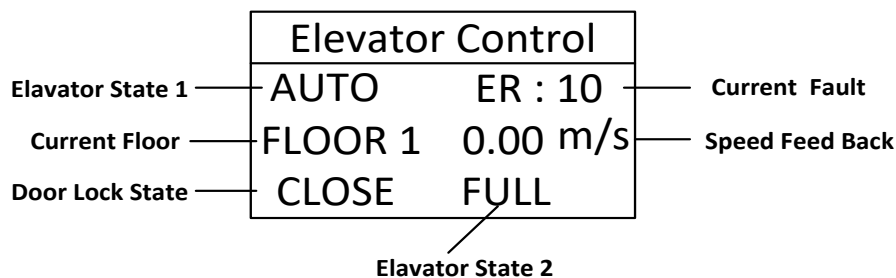

FIGURE 7.1 DIGITAL OPERATOR LCD SCREEN INTERFACE
- c. **(Note; Connect digital operator before power on)** After power on, first see if the main menu display is correct on LCD indicator. For example; elevator state, fault state, door lock state, current floor, running speed and else. In this way we can tell if the controller is working properly and whether 24V power supply is normal. Interface on digital operator LCD screen can be seen below in Figure 7.1.